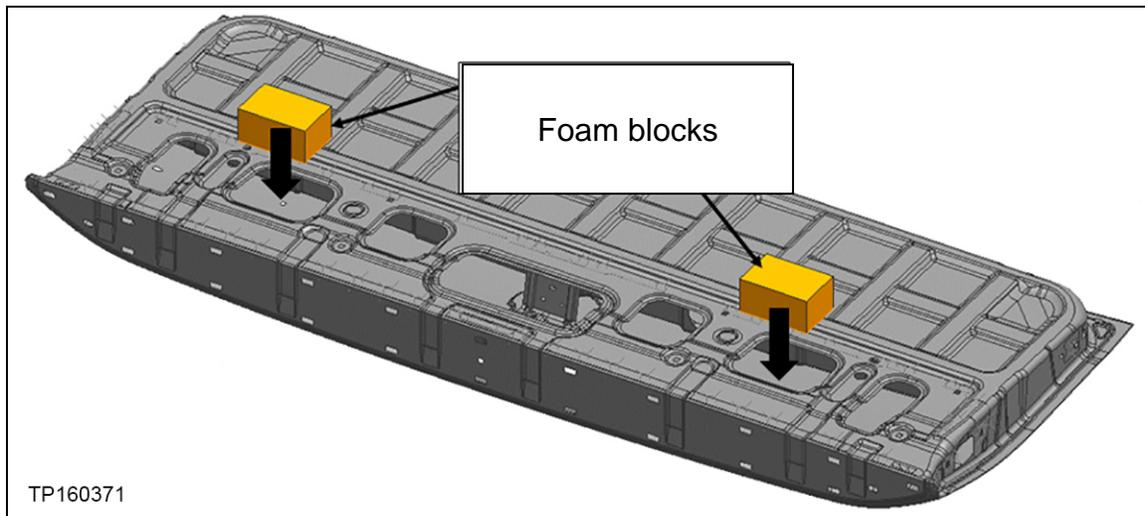

Figure 2
2. Install two foam blocks into the tailgate as shown in Figure 2 as follows: